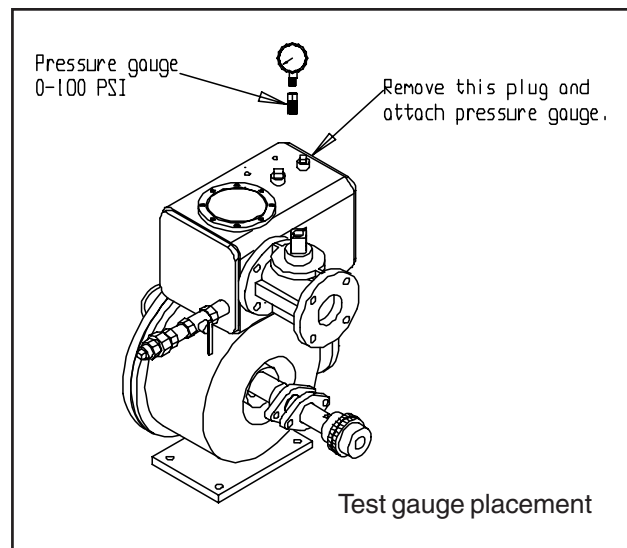

FIGURE 4-4. PRESSURE GAUGE
6. Slowly open the 3/4 inch (19.05 mm) plug on top of the strainer box and listen for a suction sound. If sound is heard, remove the plug and install a 0-100 PSI pressure gauge with diaphragm (ROSCO part #5058) to the screen box. (Figure 4-4) If a suction sound is not heard, check all switches to be sure the right settings are being used.